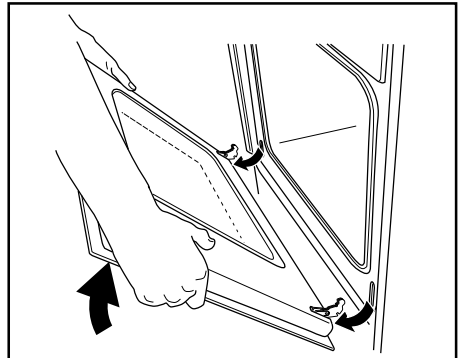

Fig. 11
- 4) hold the door by the side edges and close it slowly but not COMPLETELY (Fig. 11);
- 5) pull the door forward, removing it from its seat (Fig. 11);